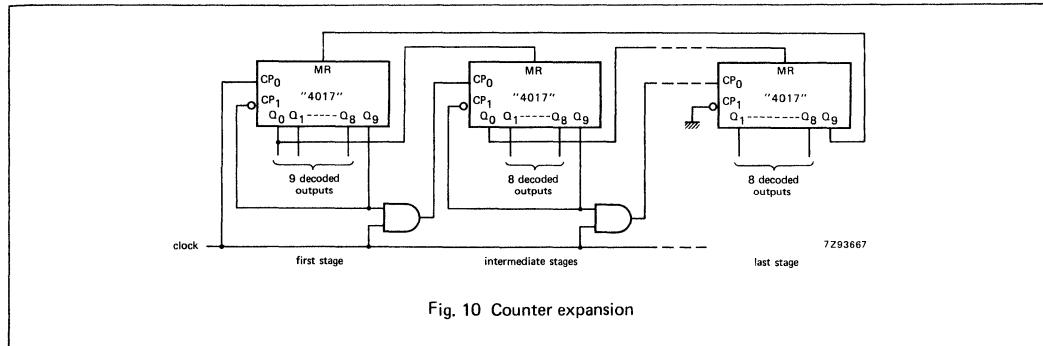

Fig. 10 Counter expansion
Figure 10 shows a technique for extending the number of decoded output states for the "4017". Decoded outputs are sequential within each stage and from stage to stage, with no dead time (except propagation delay).
**Note to Fig. 10**